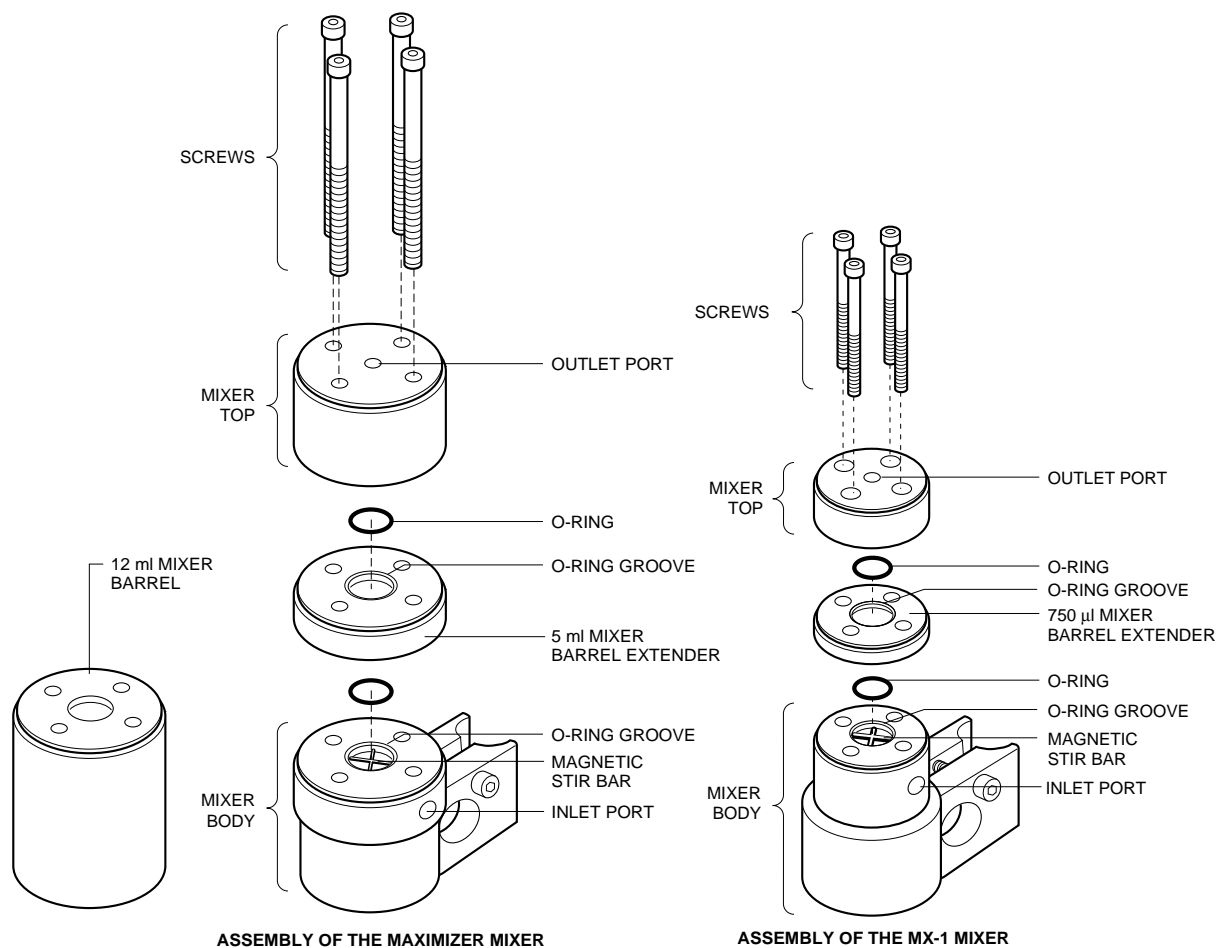

Figure 2-5. Assembly of Mixers
2. Use the hex key provided to remove the four screws from the top of the mixer (see Figure 2-5).
4. Refer to Figure 2-5 for re-assembling the mixer. Make sure that the magnetic stir bar lies flat. If the standard mixer barrel is to be used, assure the O-ring groove faces up.